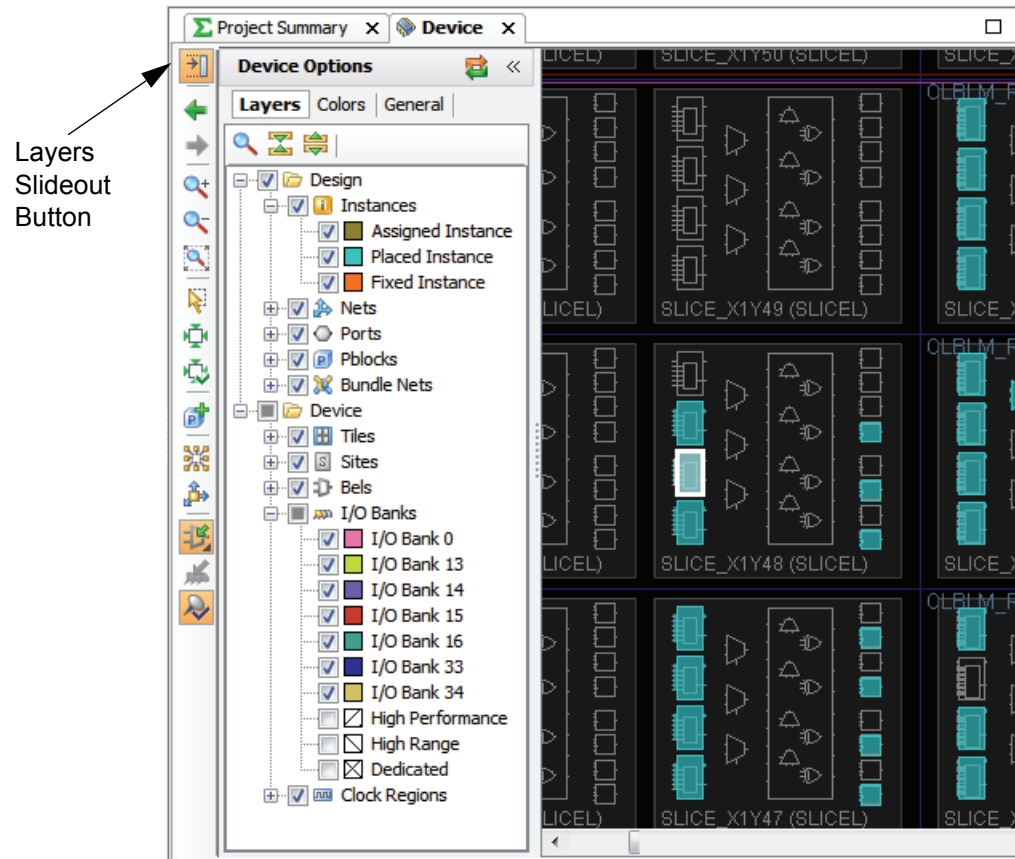

Figure 4-43: Device View Layers
- Layers:** Define what device and design objects are displayed in the Device view. This command allows you to control the level of detail displayed in the Device view, and is especially useful when the display seems over-crowded with information. Figure 4-43 shows the Layers tab of the Device View Options command.